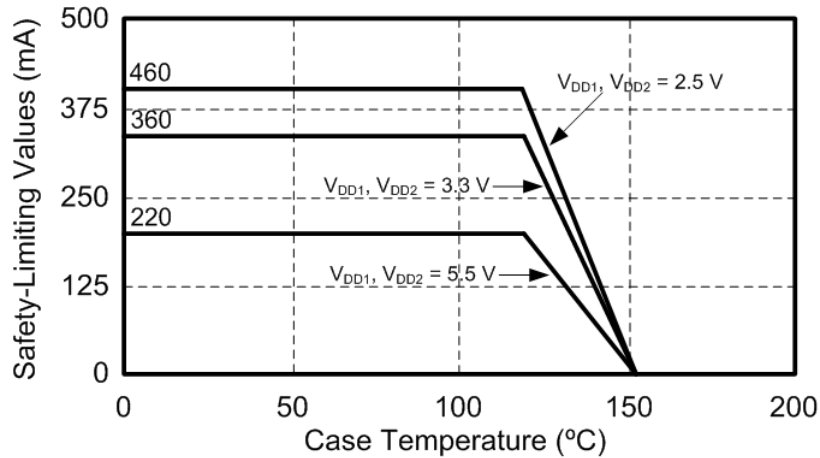
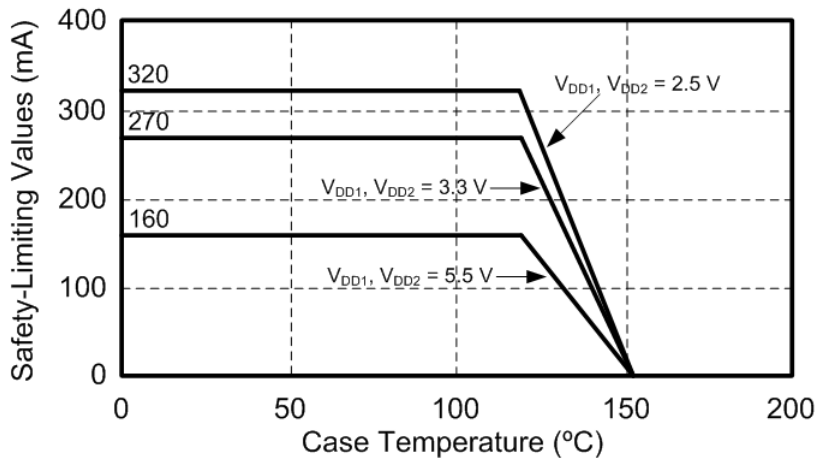

Figure 4.3. (WB SOIC-16) Thermal Derating Curve, Dependence of Safety Limiting Values with Case Temperature per DIN EN 60747-5-5/VDE 0884-10, as Applies
Figure 4.4. (NB SOIC-8) Thermal Derating Curve, Dependence of Safety Limiting Values with Case Temperature per DIN EN 60747-5-5/VDE 0884-10, as Applies
1. Maximum value allowed in the event of a failure; also see the thermal derating curve in [Figure 4.3 \(WB SOIC-16\) Thermal Derating Curve, Dependence of Safety Limiting Values with Case Temperature per DIN EN 60747-5-5/VDE 0884-10, as Applies on page 24](#) and [Figure 4.4 \(NB SOIC-8\) Thermal Derating Curve, Dependence of Safety Limiting Values with Case Temperature per DIN EN 60747-5-5/VDE 0884-10, as Applies on page 24](#).